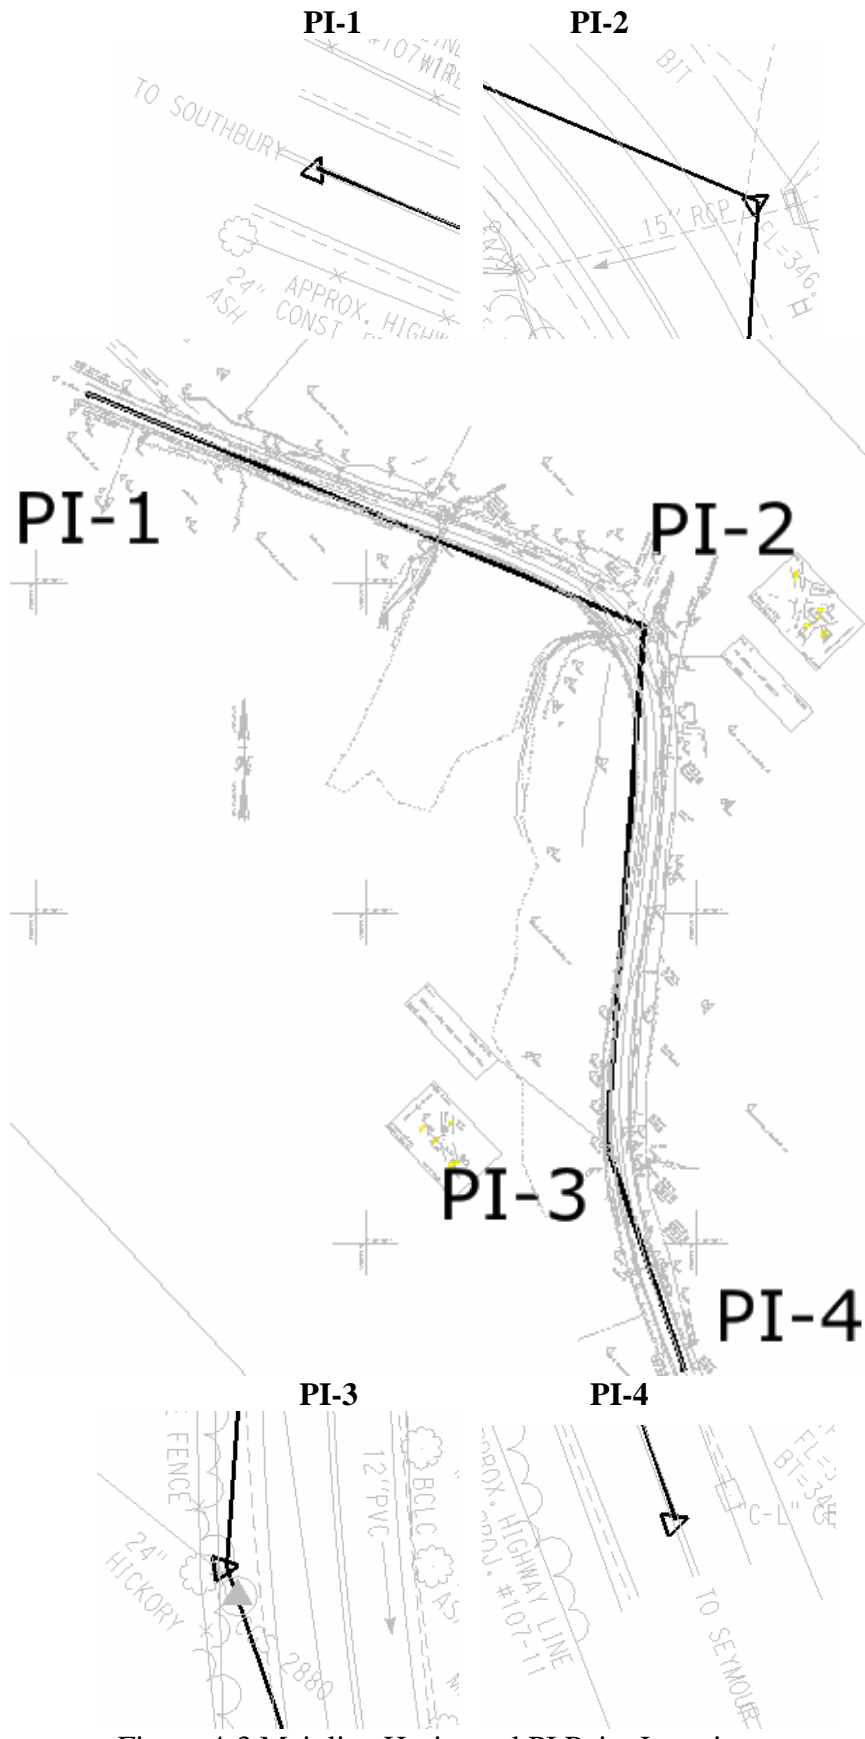

Figure 4-3 Mainline Horizontal PI Point Locations
- E. For setting the PI-1, data point on the center of the existing roadway at the beginning of the project. Then data point to accept the point. Note: Always read and follow the MicroStation prompts at the bottom left corner of the application. (See Figure 4-3 for location of PIs.)
- G. Continue to work along the project by data pointing and accepting PI locations similar to what is shown in Figure 4-3.
- J. When done trying out the commands in Step I, revise the alignment back to what is shown in Figure 4-3. Use **Redisplay geometry, Select > Geometry > View Geometry > Active Horizontal**.